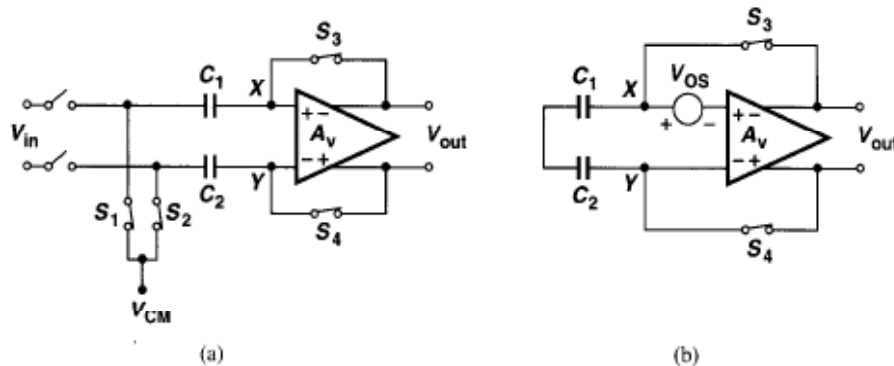

Figure 13.29 (a) Input offset storage, (b) circuit of (a) in the offset cancellation mode.
- From Fig. 13.29 b) we get eq. 13.89 and 13.81.